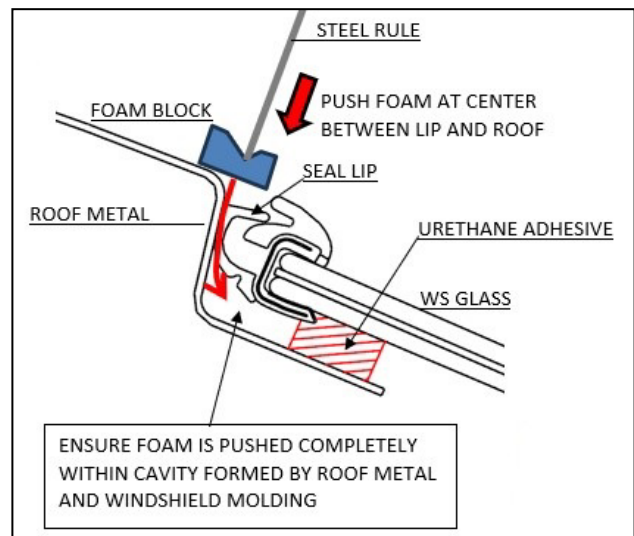

Figure 19
- Ensure the foam is pushed completely within the cavity formed by the roof metal and the windshield molding, as shown in Figure 19.